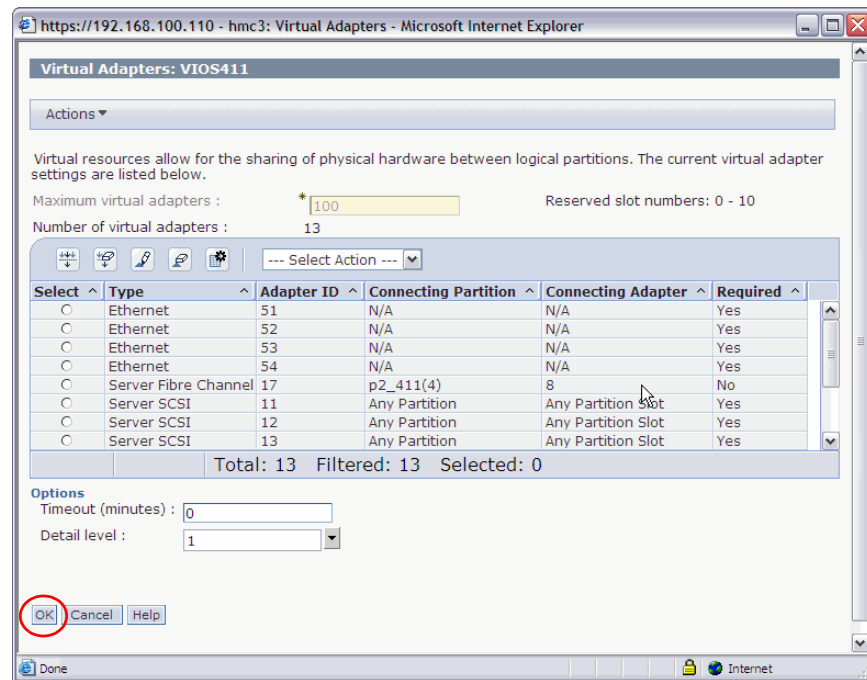

Figure 5-15 Virtual Adapters panel
- b. The HMC panel that is displayed is to the panel in Figure 5-15 and shows that the virtual Fibre Channel is defined for creation. You must exit this panel by clicking the **OK** button for the definition to be saved.